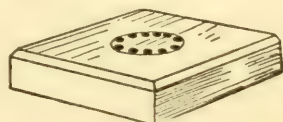

FIG. 217.
**A Chinning-bar** is very easily put up in a doorway (Fig. 215). A piece of a curtain-pole will do for the bar, and the socket-blocks for it to set in should be made as shown in Fig. 216. Cut the blocks 4 inches square and make the holes a little larger than the ends of the curtain-pole. Figure 217 shows how to cut the holes by first boring a ring of little holes and then cutting out the center and trimming up with a chisel. Make the hole in block *B* like that in *A*, then saw a piece out of the top. Screw the blocks to the door jambs about 3 inches below the door *head*.